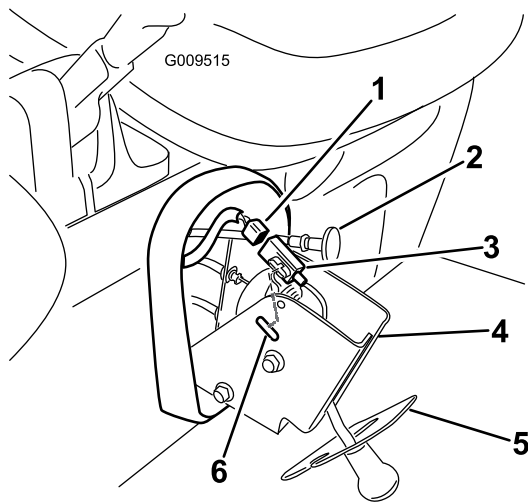

Figure 11
4. With the shift plate loose, remove the choke cable from the shift selector body. Gently pull the remainder of the shift selector assembly forward far enough to install the switch (Figure 11).
5. Locate the wiring harness and box connector on the harness labeled Reverse Switch (Figure 11).
6. Install the reverse switch to the labeled box connector then move the switch into position as shown in Figure 11.
7. Snap the connector into place at the existing oval slot in the selector assembly with the switch button facing forward (Figure 11).